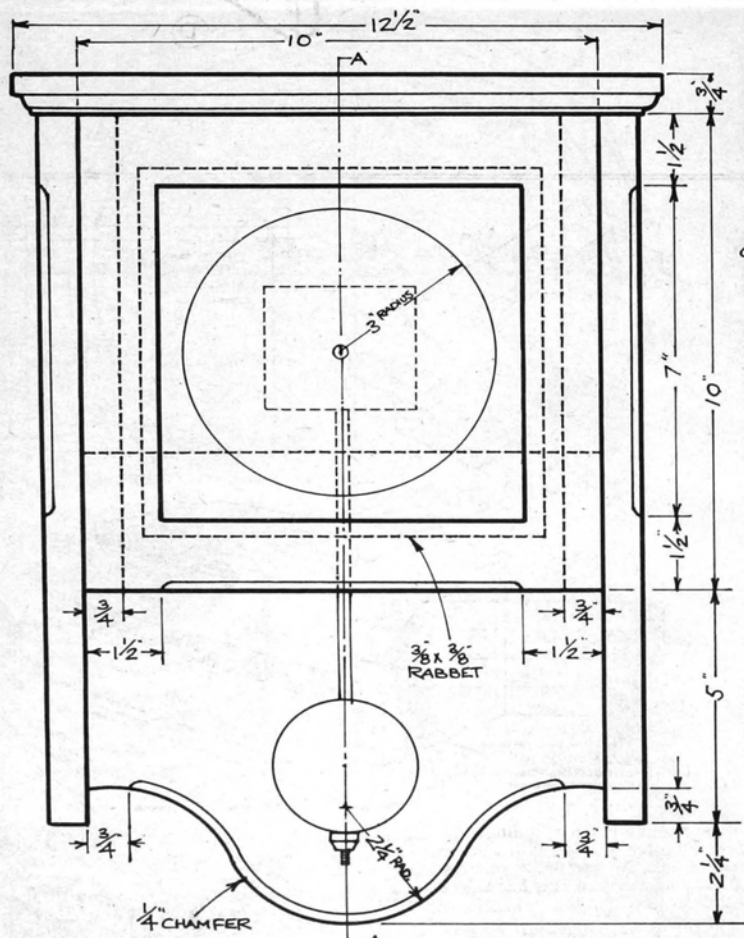

FIG. 1 FRONT ELEVATION
Part A, which is the lower back of the case, is shaped from a piece of $\frac{3}{4}$ " x 10" x 10" pine. A compass set for a $1\frac{1}{4}$ " radius will lay out all three arcs of the shaped bottom edge. Cut the shaped lower edge and chamfer as shown in Fig. 1.
Begin construction of the upper case by cutting the two sides (H) to proper length and width, making sure the wood grain runs lengthwise. A 3/8" deep x 3/4" wide rabbet is cut along the back edge to accept the back (I). Next cut a 1/4" deep x 3/4" wide dado for the drawer frame parts (M) and (N). Start the dado cut 3/4" from the bottom edge of (H). The side also requires a 1/4" deep x 3/4" wide stopped dado to accept the bottom (K). Referring to Fig. 1, note that the stopped dado is located 4 1/4" from the bottom of (H).